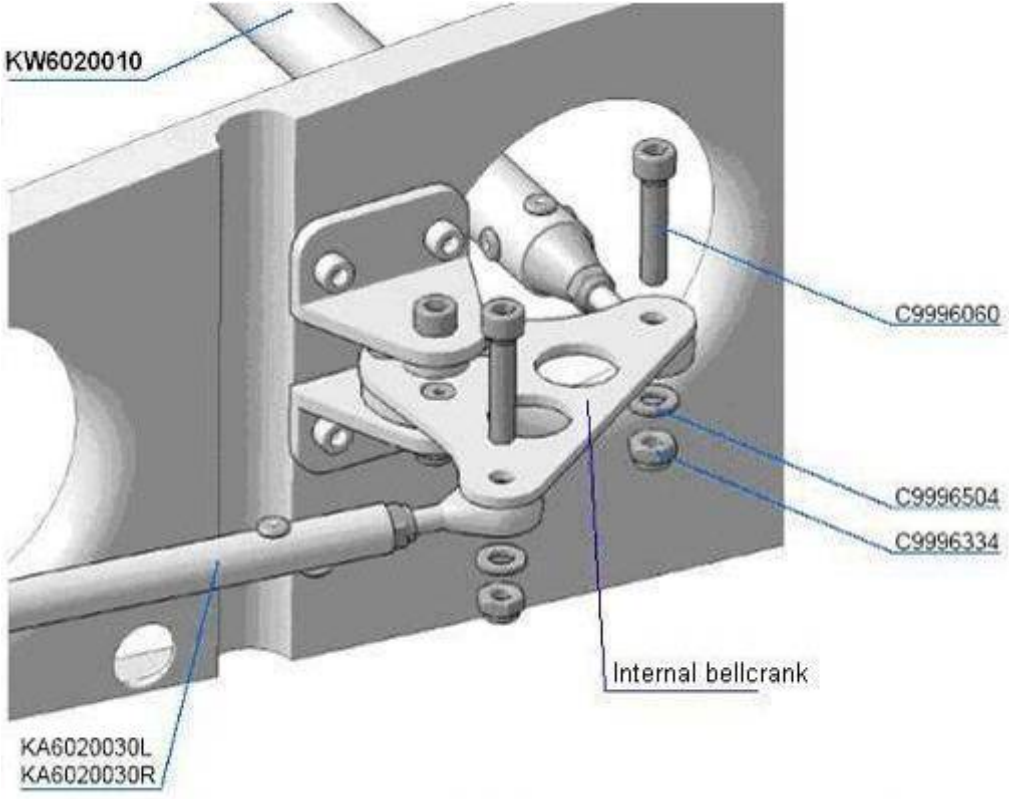

Fig. 57-52-5
5 Unscrew the nut C9996334 (Self-locking nut DIN 985-M6, regular). Disconnect the rod (KA6020030R) from the internal bellcrank. Fig. 57-52-5.
7	Connect the aileron rod (1) (KA6020030R) with internal bellcrank (Fig. 57-52-5). Engage, but do not tighten the nut on the bolt.